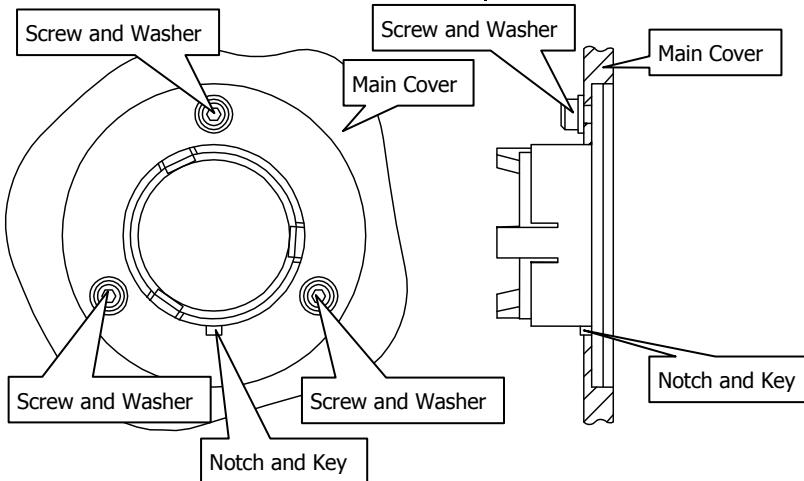

Figure 3 Window Installed in Main Cover
7. Secure the window to the main cover by fitting the screws and washers and tightening the screws using the hexagonal wrench (Figure 3).